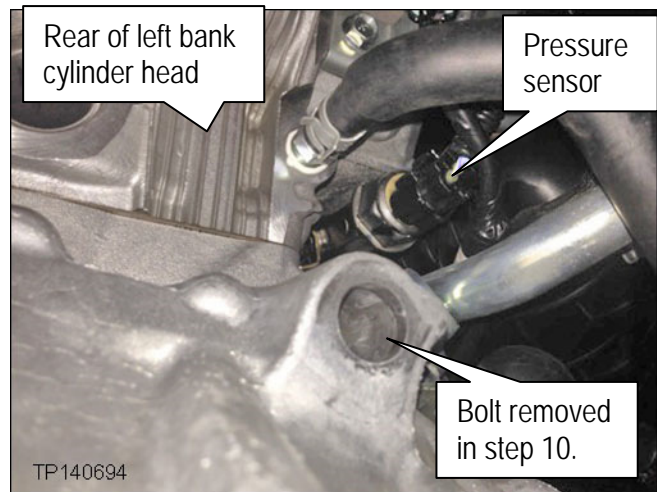

Figure A8
12. Locate the fuel rail pressure sensor shown in Figure A8.